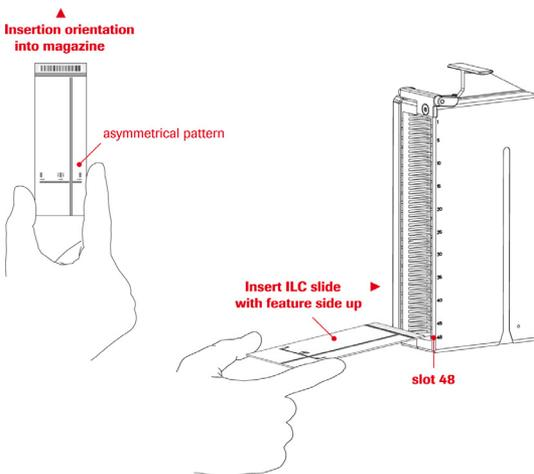

Figure 17: Inserting the ILC Slide
- Click the **Start/Stop ILC procedure** button (▶). When prompted, load the ILC slide into slot 48 of the slide magazine (Figure 17). Insert the slide magazine into the Microarray Scanner (Figure 10).